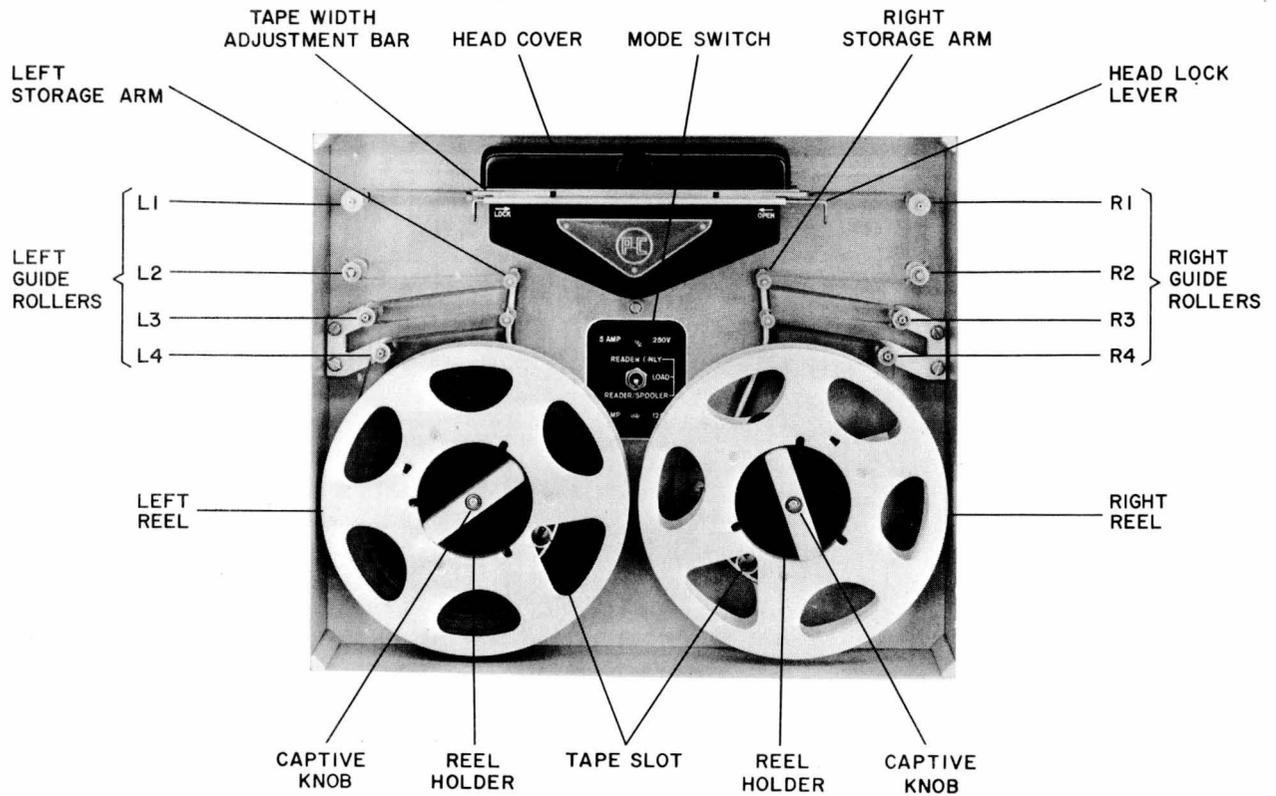

Figure 3-1. 500R Front View
3-2-1. TAPE LOADING (see figure 3-1).
f. Pull tape from full reel directly to empty reel. Place end of tape in reel slot (figure 3-1).